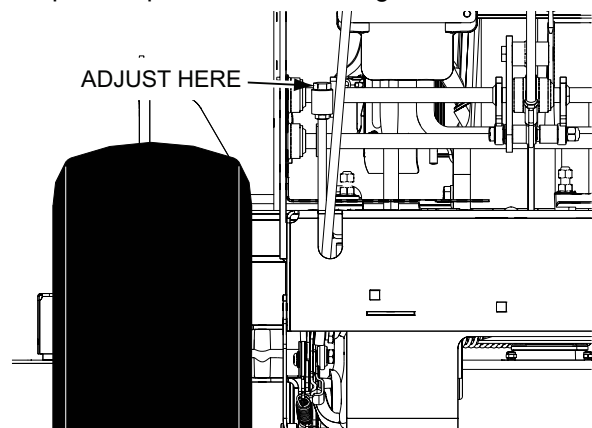

Figure 6-2. Neutral Adjustment
4. Start on the left side of the machine. Using a wrench, rotate the tracking adjustment nut counter clockwise just until the LH wheel starts to creep forward. Make note of the position of the adjustment nut. See Figure 6-2.